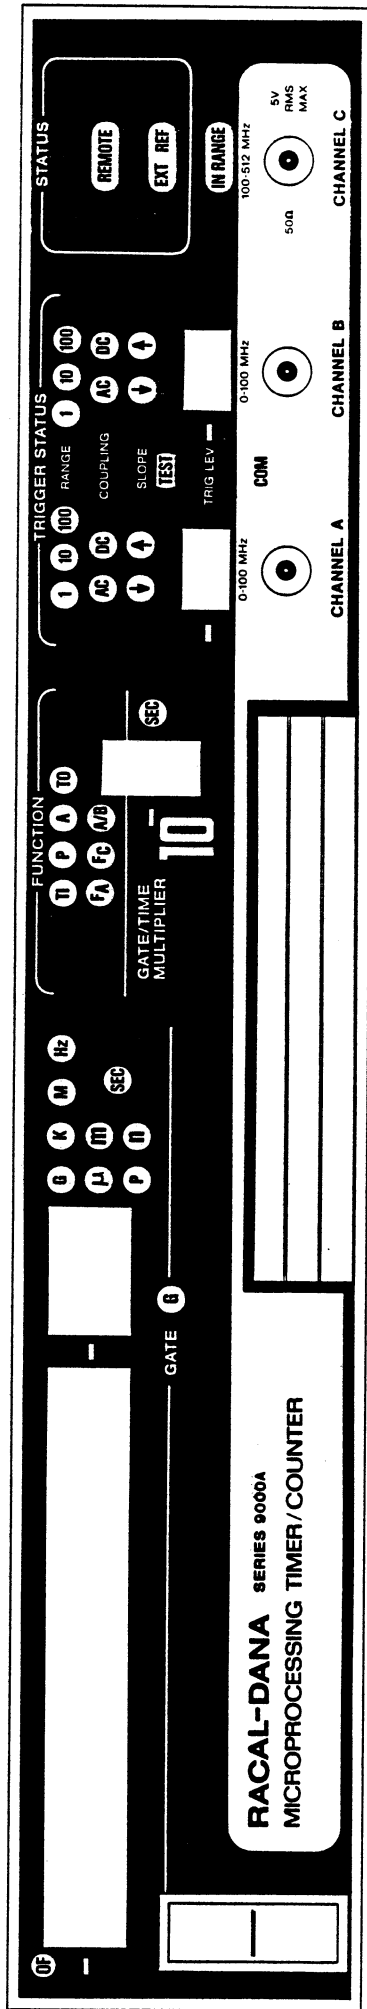

Figure 1.1 - 9000A Microprocessor Timer/Counter
1.1.1 This manual provides installation, operation and calibration procedures for Models 9015A, 9015/11A, 9035A, and 9035/11A of the Racal-Dana Series 9000A Micro-processor Timer/Counter (Figure 1.1).